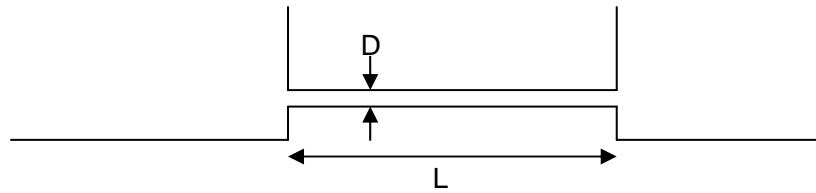
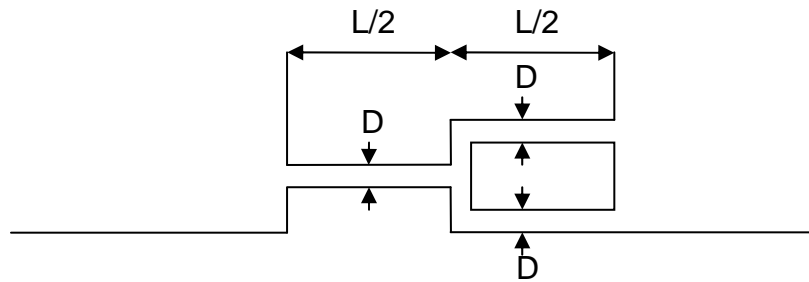

Fig. 9a
Fig. 9b
- (9) A single uniform joins two reservoirs of fluid as shown in Fig. 9a. Calculate the percentage increase of flow rate obtainable if, from the mid-point of this pipe, another of the same diameter is added in parallel to it as shown in Fig 9b. Neglect all losses except pipe friction and assume a constant and equal f for both pipes.
Cases of figure 9a:
Cases of figure 9b: